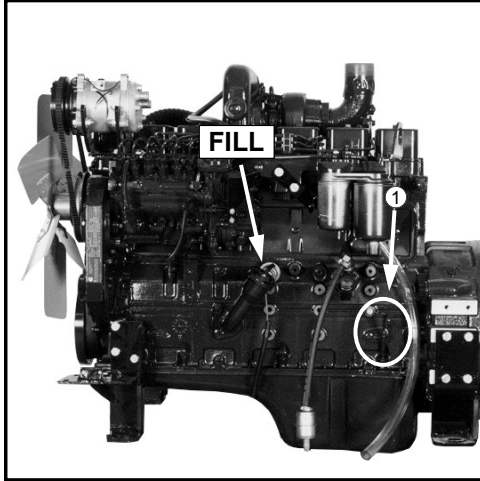

FIG 7.1
**OIL LEVEL** - The engine oil level dipstick is located on the left-hand side of the diesel engine (fig. 7.1, item 1). Never operate the engine with the oil level below the “L” (low) mark or above the “H” (high) mark. Wait at least five minutes after shutting off the engine to check the oil level; this allows time for the oil to drain to the oil pan. Check the engine oil level daily, change it yearly or every 500 hours.